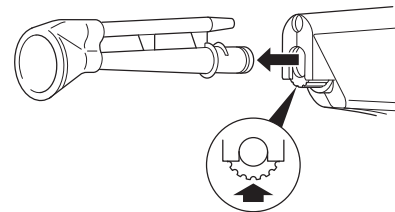

Figure 2 – To Remove the Tip Assembly
- Press the tip locking mechanism and remove the tip assembly from the handpiece (figure 2).